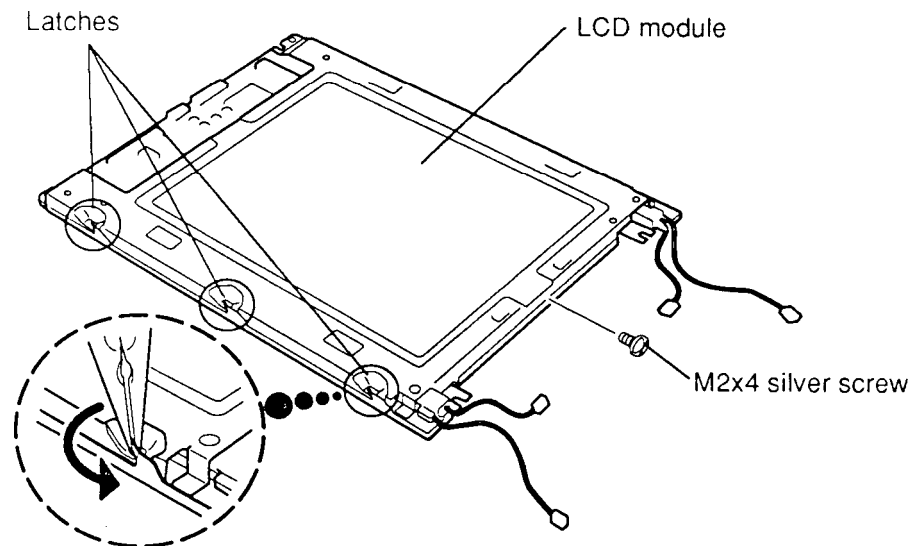

Figure 4-40 Unbending the LCD Module Latches
To remove the computer's FL unit, follow the steps below and refer to Figures 4-40 through 4-42.
3. Lay the **LCD module** face down and use needle-nose pliers to unbend the **three latches** holding the front and back frames together, then lift the unit out of the front frame (Figure 4-40).
4. Remove the **M2x4 silver screw** from the cable side of the **LCD module** (Figure 4-40).
To install the FL unit, follow the steps below and refer to Figures 4-40 through 4-42.
4. Place the assembly in the front frame and carefully bend the **three latches** back into place (Figure 4-40).
5. Secure the **M2x4 silver screw** to the cable side of the **LCD module** (Figure 4-40).